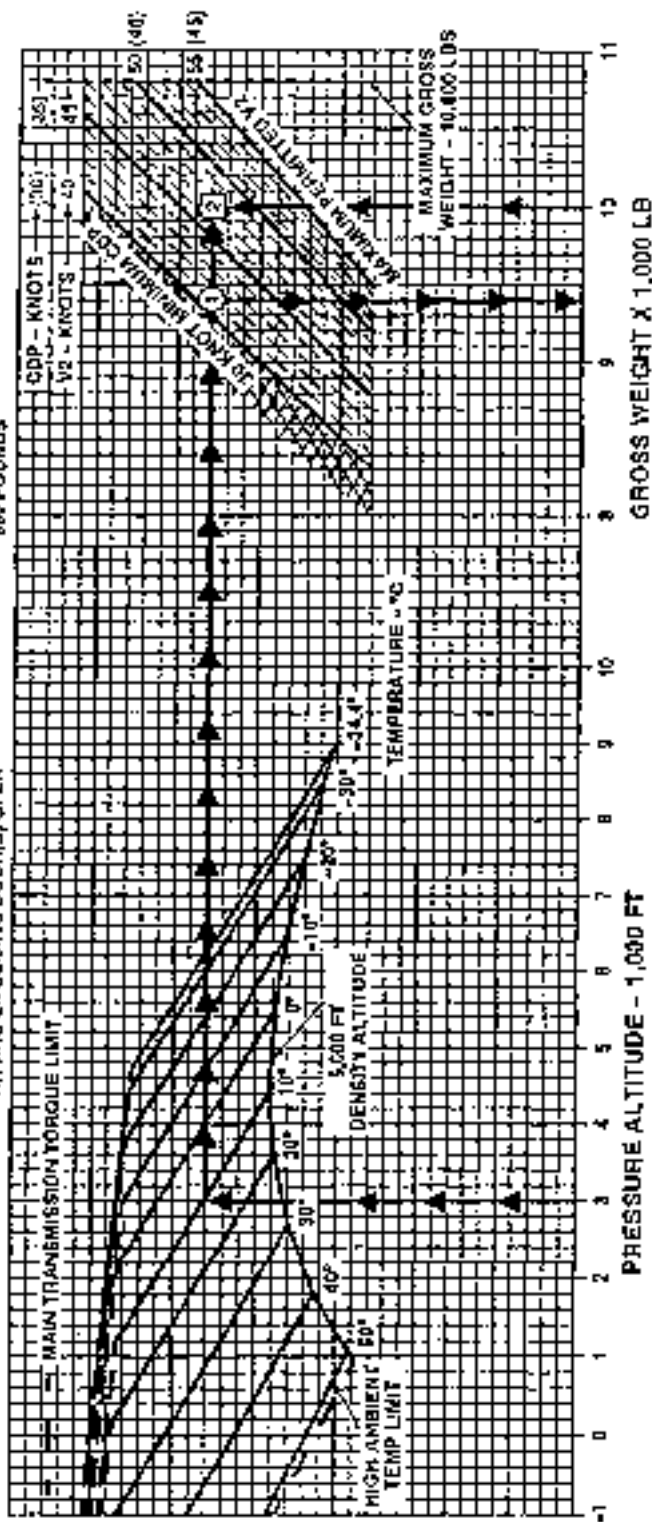

Figure 1.1.15 Category "A" - Maximum Takeoff and Landing Gross Weight
Figure 1.1.14 shows the Rejected Takeoff (RTO) and Continued Takeoff (CTO) distances as a function of pressure altitude, temperature, headwind component, CDP speed and V₂ speed. RTO and CTO distances are directly proportional to CDP and V₂ speeds respectively, therefore lower CDP and V₂ speeds equate to shorter field lengths. Figure 1.1.15 shows the maximum takeoff and landing gross weight as a function of pressure altitude, temperature, and CDP/V₂ speeds. Maximum takeoff and landing gross weight is also directly proportional to CDP/V₂ speeds, therefore higher CDP/V₂ speeds can equate to higher maximum takeoff gross weights.
2. Enter Figure 1.1.15 with pressure altitude, temperature, and CDP speed from Step 1, and determine the maximum takeoff gross weight.
3. **Notes:** (1) If the horizontal line defined by pressure altitude and temperature intersects 10800 pounds at a CDP speed lower than the CDP from Step 1, use the lower CDP speed, or (2) if the desired takeoff gross weight is less than the maximum permitted takeoff gross weight, use the lower CDP speed corresponding to the desired takeoff gross weight.
1. Enter Figure 1.1.15 for the appropriate EAPS configuration with the desired takeoff gross weight, and using the pressure altitude and temperature, read the resultant CDP and V2 (CDP + 10 kt) speeds.